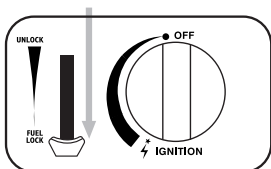
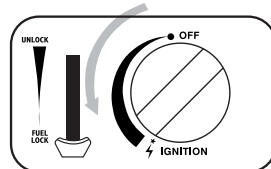

fig. 3
fig. 4
3. Press the cartridge lever (6) down (fig.3) and close the cartridge cover.
4. If you hear a "hissing" noise, the cartridge has not been correctly fitted. Do not attempt to ignite the appliance but move lever (6) to the "UNLOCK" position and repeat step (1-4).
5. Push and turn the knob (8) fully to the ignition position until it clicks. (fig.4) Repeat this action until burner ignites.